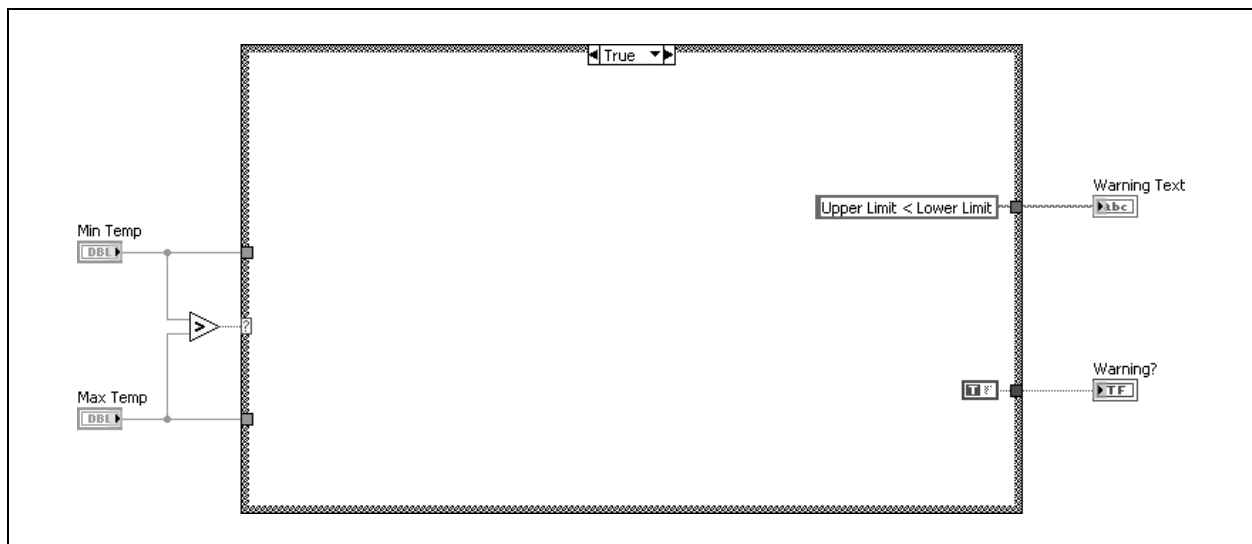

Figure 4-40. Determine Warnings VI Block Diagram
6. If **Min Temp** is greater than **Max Temp**, create a custom string for the **Warning Text** indicator and set the **Warning?** indicator to True, as shown in Figure 4-40.